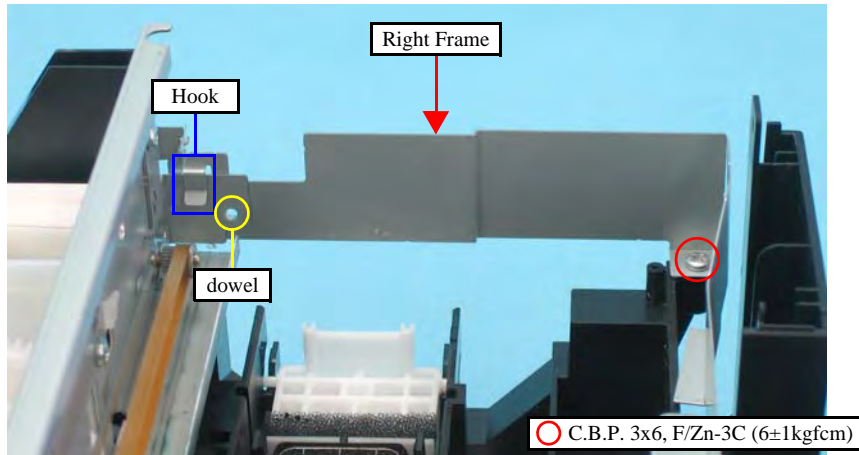

Figure 4-49. Removing the Front Frame/Right Frame (2)
- As shown in Figure 4-49, secure the Front Frame and Right Frame together with the screw. (Place the Right Frame on top of the Front Frame.)